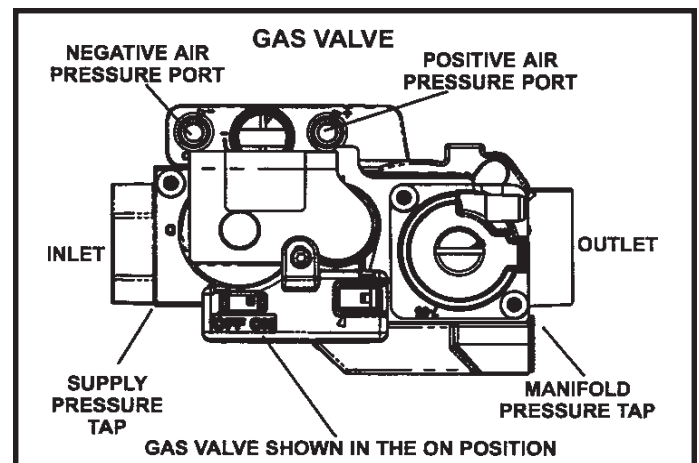

Figure 35
## Gas Valve Operation (Figure 35)
6. Move the gas valve switch to the **OFF** position. See Figure 35.
8. Move gas valve switch to the **ON** position. See Figure 35. **DO NOT** force.